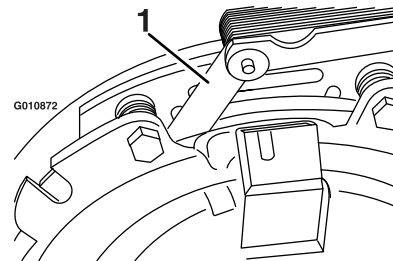
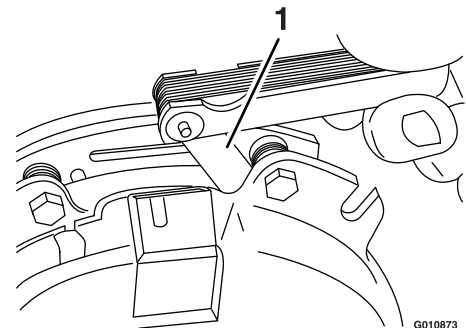

Figure 66
Figure 67
- E. Using a 0.010 inch thick feeler gauge, verify that there is a gap between the rotor and armature face on both sides of the brake pole as shown in Figure 66 and Figure 67.